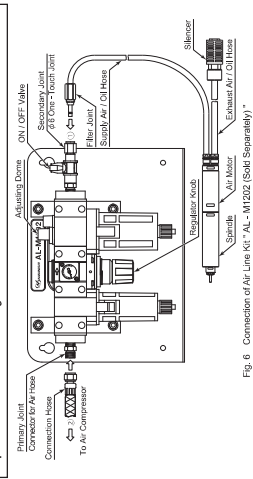

Fig. 6 Connector of Air Line Kit (AL - M1202 (Sold Separately))
- Connect the Filter Joint of the supply air / oil hose to the Secondary Joint ($\phi 6$ Dia. - Touch Joint) of the Air Line Kit. (Fig. 6 (1)).